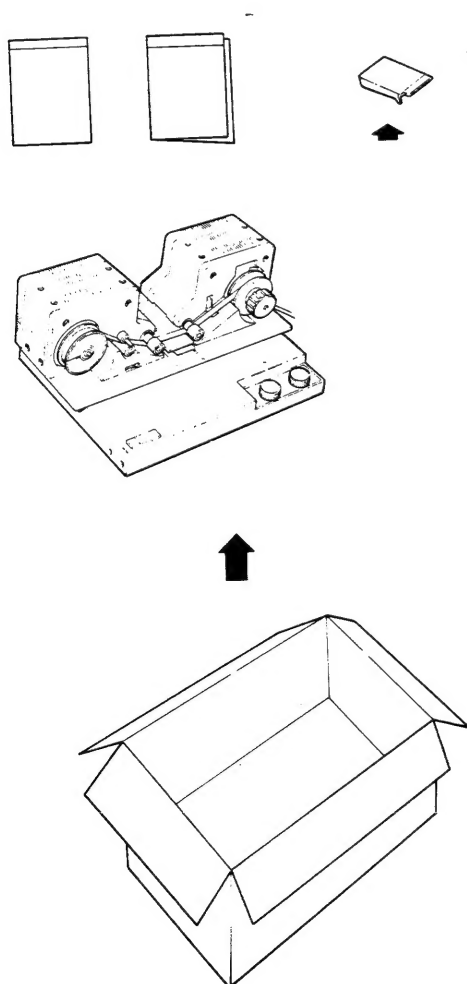

Figure 2-2A
2. Inspect the machine and un-installed components (Figure 2-2A) for damage or missing parts.